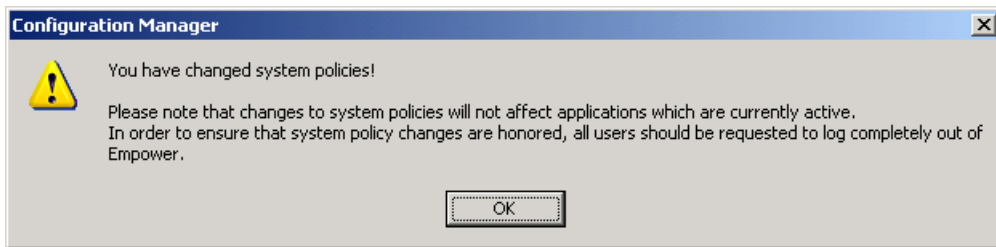

Figure C-3 Configuration Manager Message Box
7. Click **OK** to save the settings. A Configuration Manager message box appears (Figure C-3).